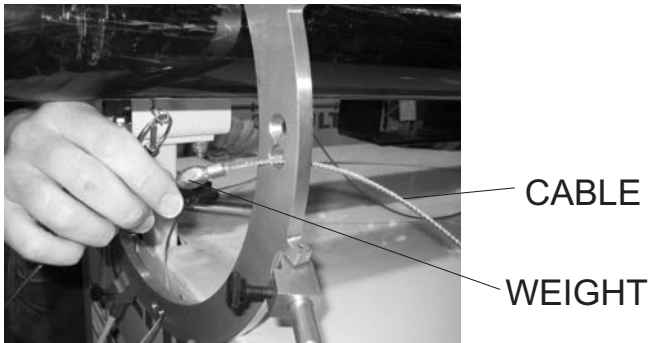

Figure 11. Cable Installation
13. Insert cable through the hole (Figure 11). Leave the cable loose for now. Do the same for the other three cables.